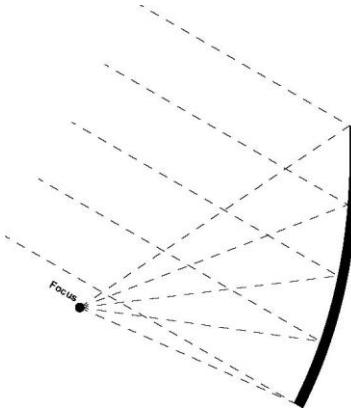

Figure 2. Offset Parabolic Dish Antenna Aimed at Satellite
- 2 An 18 inch DSS offset-fed dish at 10 GHz, with measured gain of 32.0 dB and efficiency of 63%. The spillover efficiency should be comparable, but with the offset dish pointing at a high elevation as shown in Figure 2, far less of the spillover is illuminating warm earth. If we estimate 20%, then 8 K is added to the 6 K of sky noise, for a total of 14 K. In a 500 Hz bandwidth, the noise output is -160 dBm.